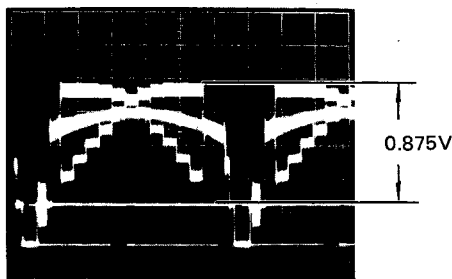

Fig. 5-6-27
- o Trigger the oscilloscope at H rate. (Use TP9 (BL), Deflection board.)
- o Adjust VR6 (G WHITE CLIP), VR5 (R WHITE CLIP) and VR4 (B WHITE CLIP) so that the video signal is clipped at 0.875V and the carrier on the top step of the gray scale waveform is minimum. (Fig. 5-6-27).